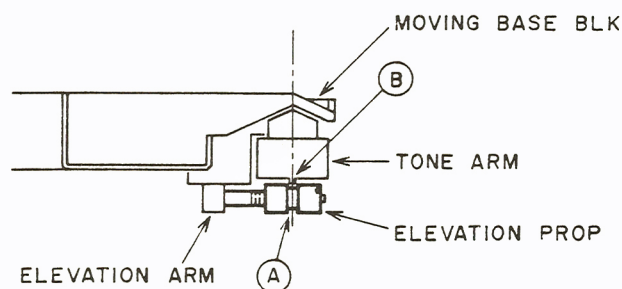

Fig. 6-1
6-2 ELEVATION AND POSITION ADJUSTMENT (Refer to Fig. 6-1)
Then, bring the Elevation Prop close to the Tone Arm, and adjust the Elevation Prop with a flat type screw-driver to the place where the position of the notch (A) on the Elevation Prop coincides with the projecting part (B) on the Tone Arm as shown in Fig. 6-1.